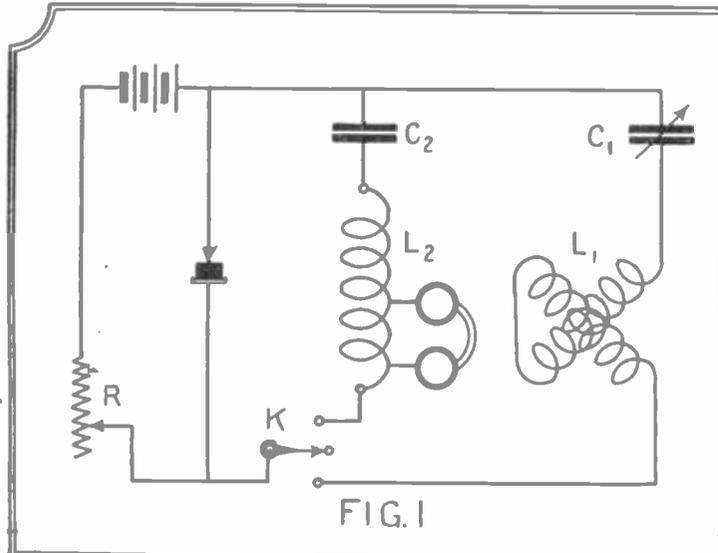
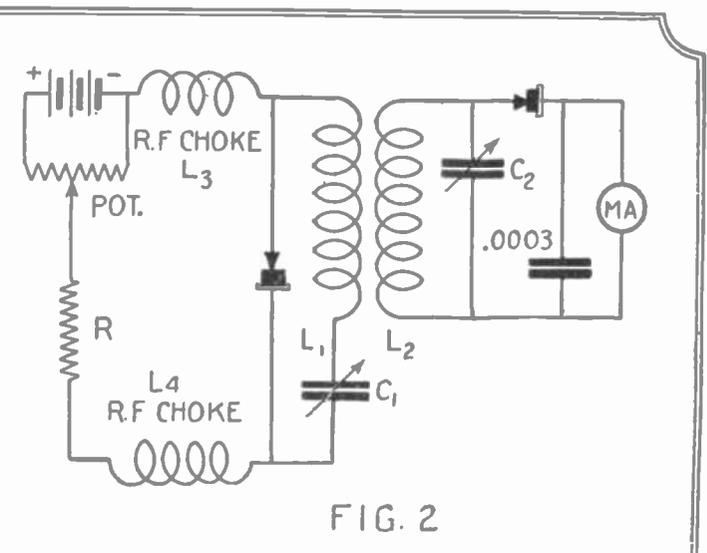
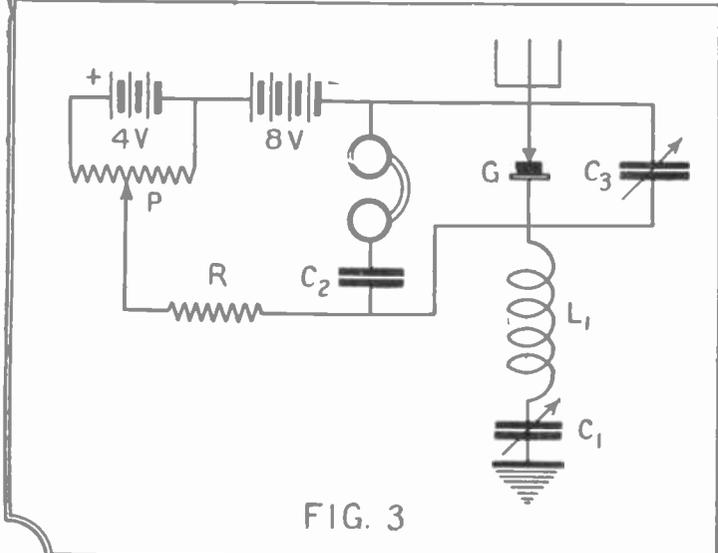
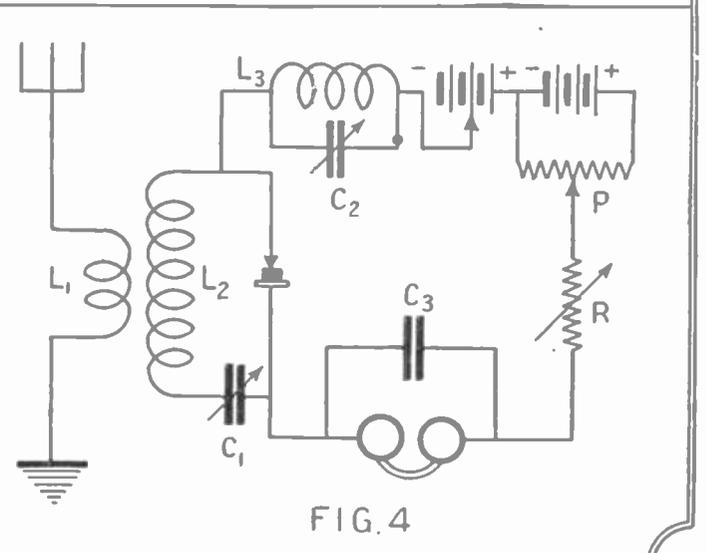

FIG. 1
FIG. 2
FIG. 3
FIG. 4
Experimental oscillating crystal circuits. Fig. 1 shows how either radio or audio frequencies may be generated depending upon the position of switch K. Fig. 2 is for generating radio frequencies of short wave-lengths. Figs. 3 and 4 show circuits for receiving continuous waves.
The experimenter should first get the crystal oscillating at audio frequencies before he attempts to make it oscillate at radio frequencies. Such a circuit, known as the cristodyne circuit, is shown in Fig. 1. The battery used may be composed of dry cells, such as a "B" battery, providing its internal resistance is not too great. The voltage to apply to the crystal is generally between five and 30 volts, depending upon its quality. The resistance (R) should be about 3,000 ohms and it should be variable. L2C2 is the audio frequency oscillating circuit. (L2) may consist of four 1,500-turn honey-comb coils connected in series with a tap at the center of the headrest. (C2) is a fixed condenser having a capacity from 1/4 to 2 mfd. (L1C1) is the radio frequency circuit. Although (L1) in the illustration indicates a variometer the experimenter may use the low-loss coil described instead. (C1) is a 43-plate condenser. It has been observed that the crystal produces stronger currents when the ratio of capacity to inductance is large. Hence it is advisable to use large condensers and small coils. By means of switch (K) either the audio or the radio frequency circuit may be connected to the crystal.
Fig. 2 shows a better circuit for producing radio frequency oscillations. It has been possible with this circuit to produce oscillations having a wave-length of 25 meters, which means a frequency of 12,000,000 cycles per second. For this extremely
For the reception of radio code signals and radio telephony, the circuit shown in Fig. 3 may be used. In this circuit oscillations are produced directly in the aerial, and once the crystal is oscillating, CW signals may be heard. By proper adjustment of the potentiometer (P), the crystal may be brought to a point just before oscillations start, and broadcast stations may be amplified considerably by regeneration. As the aerial is directly connected to the crystal, the tuning will be broad, and it will be difficult to get the crystal to oscillate on account of the large amount of energy absorbed by the aerial. To overcome these disadvantages the circuit shown in Fig. 4 was developed. This is the circuit shown in the illustration of the hook-up board. The aerial is loosely coupled to the oscillating circuit. Instead of using radio frequency chokes, as shown in Fig. 2, a tuned circuit (L3C2) is connected in series with the battery lead to keep the radio frequency currents from circulating through the battery.
Fig. 3. The correct position for holding a telegraph key when transmitting code. Note that the entire arm and not the fingers should be used for operating the key.